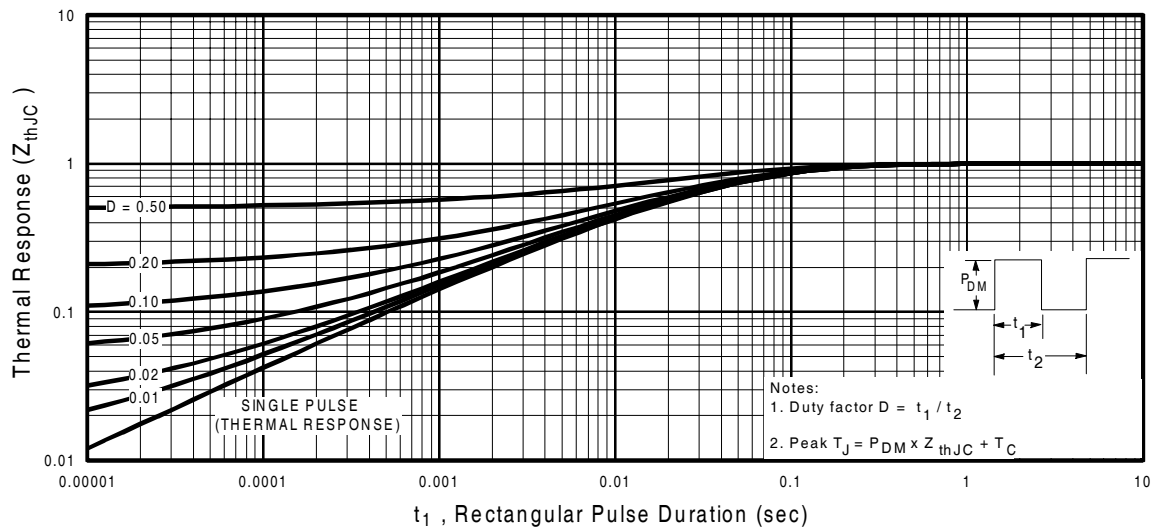

Fig 11. Maximum Effective Transient Thermal Impedance, Junction-to-Case
- ① Repetitive rating; pulse width limited by max. junction temperature. (See fig. 11)
- ② $V_{DD} = 25V$, starting $T_J = 25^\circ\text{C}$, $L = 1.2\text{mH}$